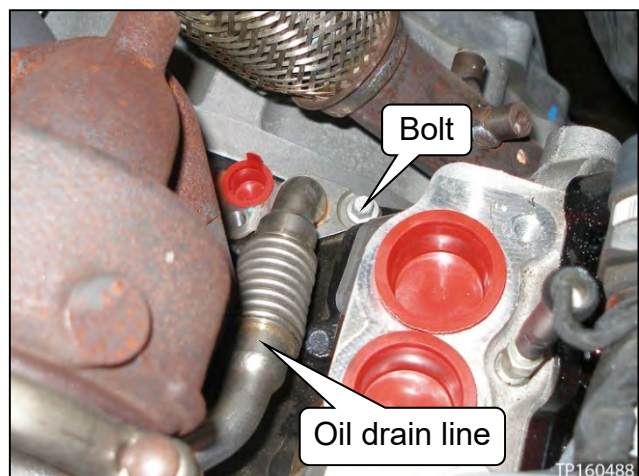

Figure 65
7. Fully insert the oil drain line with new O-ring into the engine block, and then install the bolt (see Figure 65).